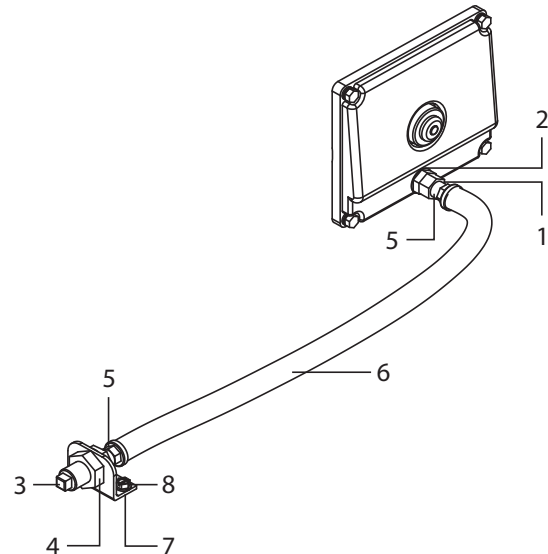

Figure 4
3. Install ¼" BSP fitting (Figure 4, item 1) with o-ring (2) into rear cover of pump.
4. Attach hose barbs (5) to each end of ⅜" hose (6).
5. Thread one end of hose (6) into fitting (1) of rear cover.
6. Remove nut from ¼" union fitting (4).
7. Thread in hose (6) with barb end into large end of union fitting (4).
8. Mount bracket (7) with screws (8) into desired position to maximize drainage.
9. Install hose assembly with union fitting end through mounting bracket (7) or panel (Bulkhead hole is .78" diameter).
10. Reinstall nut onto threads of union fitting (4) and tighten.